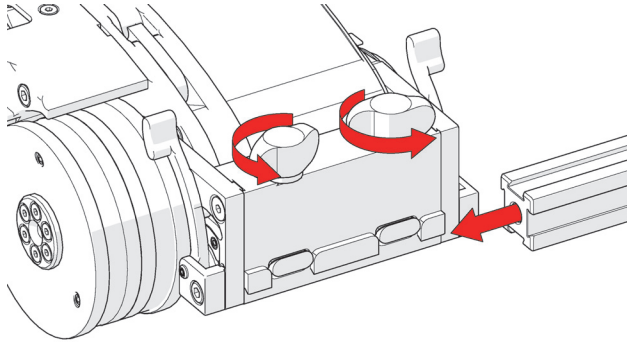

Figure 2-4 Frame bar installation
1. Rotate the two black wing knobs to loosen the dovetail jaws (see Figure 2-4 on page 53).